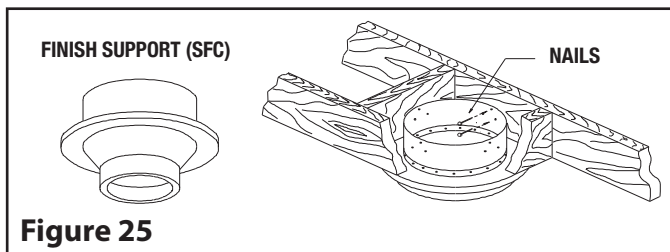

Figure 25
Step 2. From below push the support into the framed hole. Nail the support to the framed box using (12) 3" spiral nails or #8 x 1 1/2" wood screws (see Figure 25).